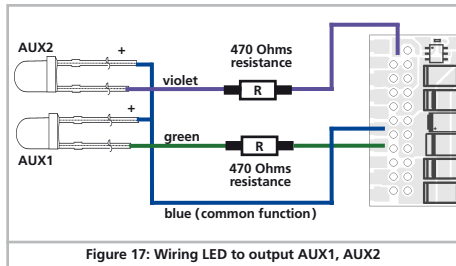

Figure 17: Wiring LED to output AUX1, AUX2
a) The lamps / function outputs are insulated from the common pole (ground) (i.e.: the locomotive chassis); therefore they are potential free. Fig. 17 shows the correct wiring for the outputs AUX1 and AUX2. The functions of the locomotive must be potential-free, in other words there may not be any other connection to the function besides the wires from the decoder. The voltage at these outputs is about 1.5V lower than the track voltage. The blue wire is the „plus-pole“; the function output the „minus-pole“.
If LEDs are installed (also refer to Fig. 17), then a resistor must be wired in series with the LEDs. It should have a rating of between 470 Ohms and 2.2 kOhms. Running the LEDs without this resistor will lead to their destruction!
It is possible to use both options in the same locomotive as shown in Fig. 17.